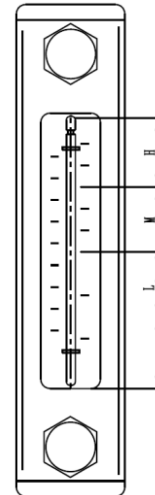

Figure 1-5 Oil Level Sight Gauge
- Examine the oil level on the hydraulic oil tank, i.e., level shall fall within the M range shown as Figure 1-5, and in the case of level lower than L, it is necessary to add hydraulic oil.